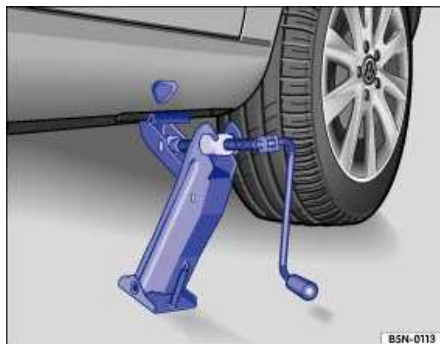

Fig. 32 Jack in lifting position at the jack point (left rear shown).
7. Adjust the jack and keep cranking until it engages the rib under the vehicle ⇒ Fig. 32 and ⇒ ⚠.
- Before you raise your vehicle, always make sure the jack claw properly grasps the vertical rib under the sill so that the jack does not slip off when you are raising the vehicle ⇒ Fig. 32.